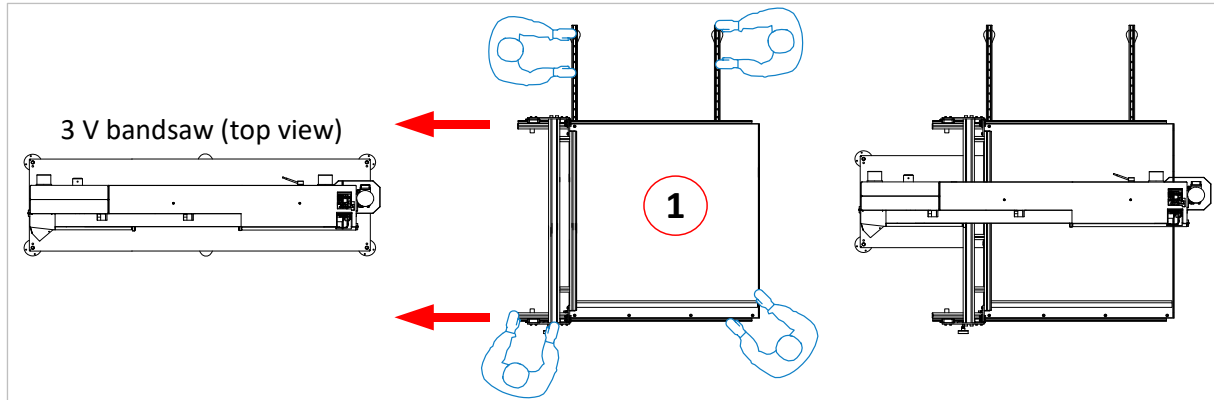

Figure 6: Move the left sliding table half (1) towards the machine
After you have positioned the saw blade guard upwards, push the left half of the sliding table (1) with 4 people or an overhead crane all the way up to the bandsaw machine (see ⇨ Figure 6 , far right).